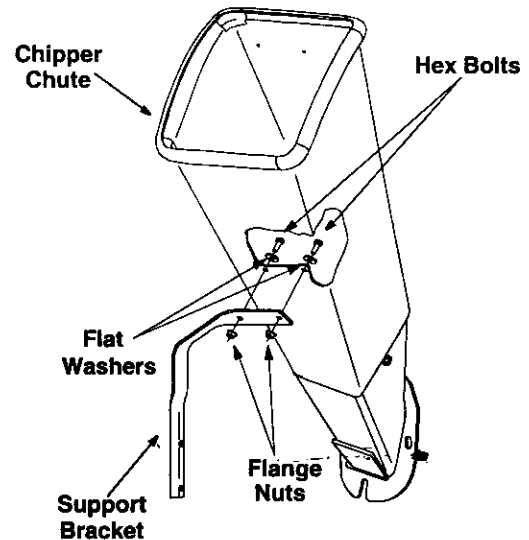

Figure 5
- Loosen, but do NOT remove, the two hex bolts, flat washers, and flange nuts which are secured to the support bracket. See Figure 5.